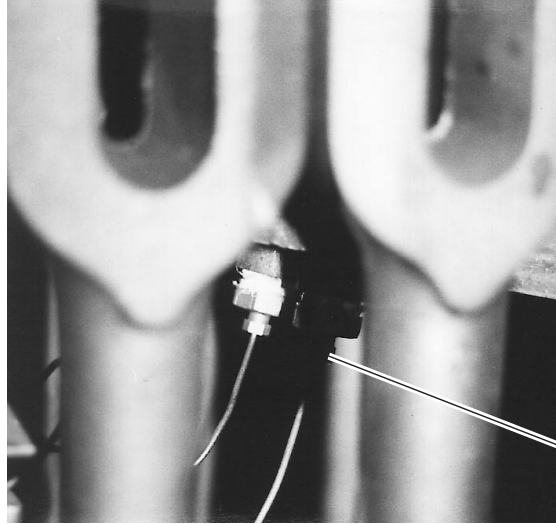

Fig. 25
7. With a 5/16" wrench remove the limit packing nut from the tank bottom. (Fig. 25)